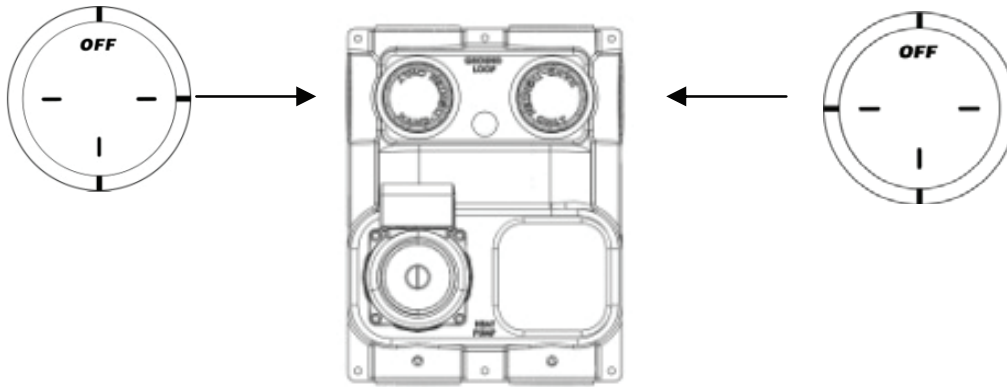

Figure 11: Valve positions to isolate ground loop from flow center and heat pump
- Verify that the 3-way valves are turned so that the flush port is open (i.e. ground loop isolated; see Figure 11).
- Verify that the 3-way valves are turned so that the flush port is open and the ground loop is isolated (see Figure 11).